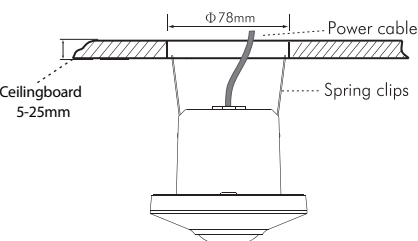

FIG.11
4.2.2.4. Close up two spring clips of detector and insert the detector in to the drilled hole on ceiling (See FIG.11).